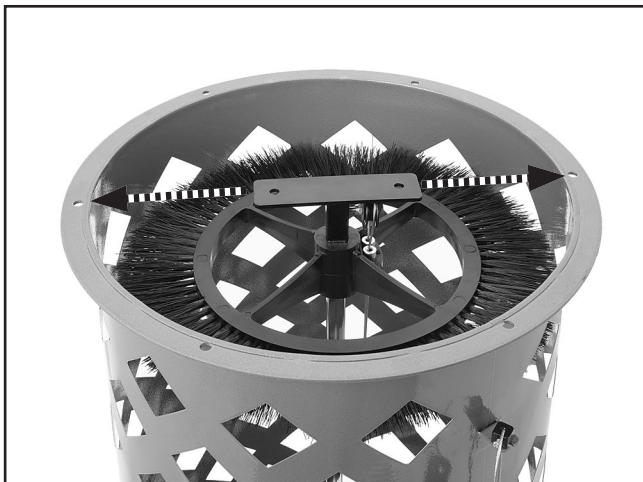

Figure 66. Filter brush base aligned with assembly fastener holes.
8. Before re-inserting a filter into the assembly, make sure that the filter brush base is aligned with two of the fastener holes around the base of the assembly (see **Figure 66**). This will allow the canister base to align with the fastener holes around the brush base.